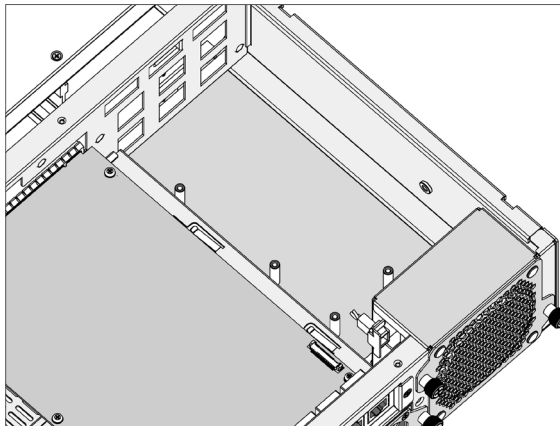

Figure B-2, Removing the Cover
1. Loosen the screws and remove the cover from the ARC-7108/ ARC-7112 enclosure, as shown in Figure B-2.